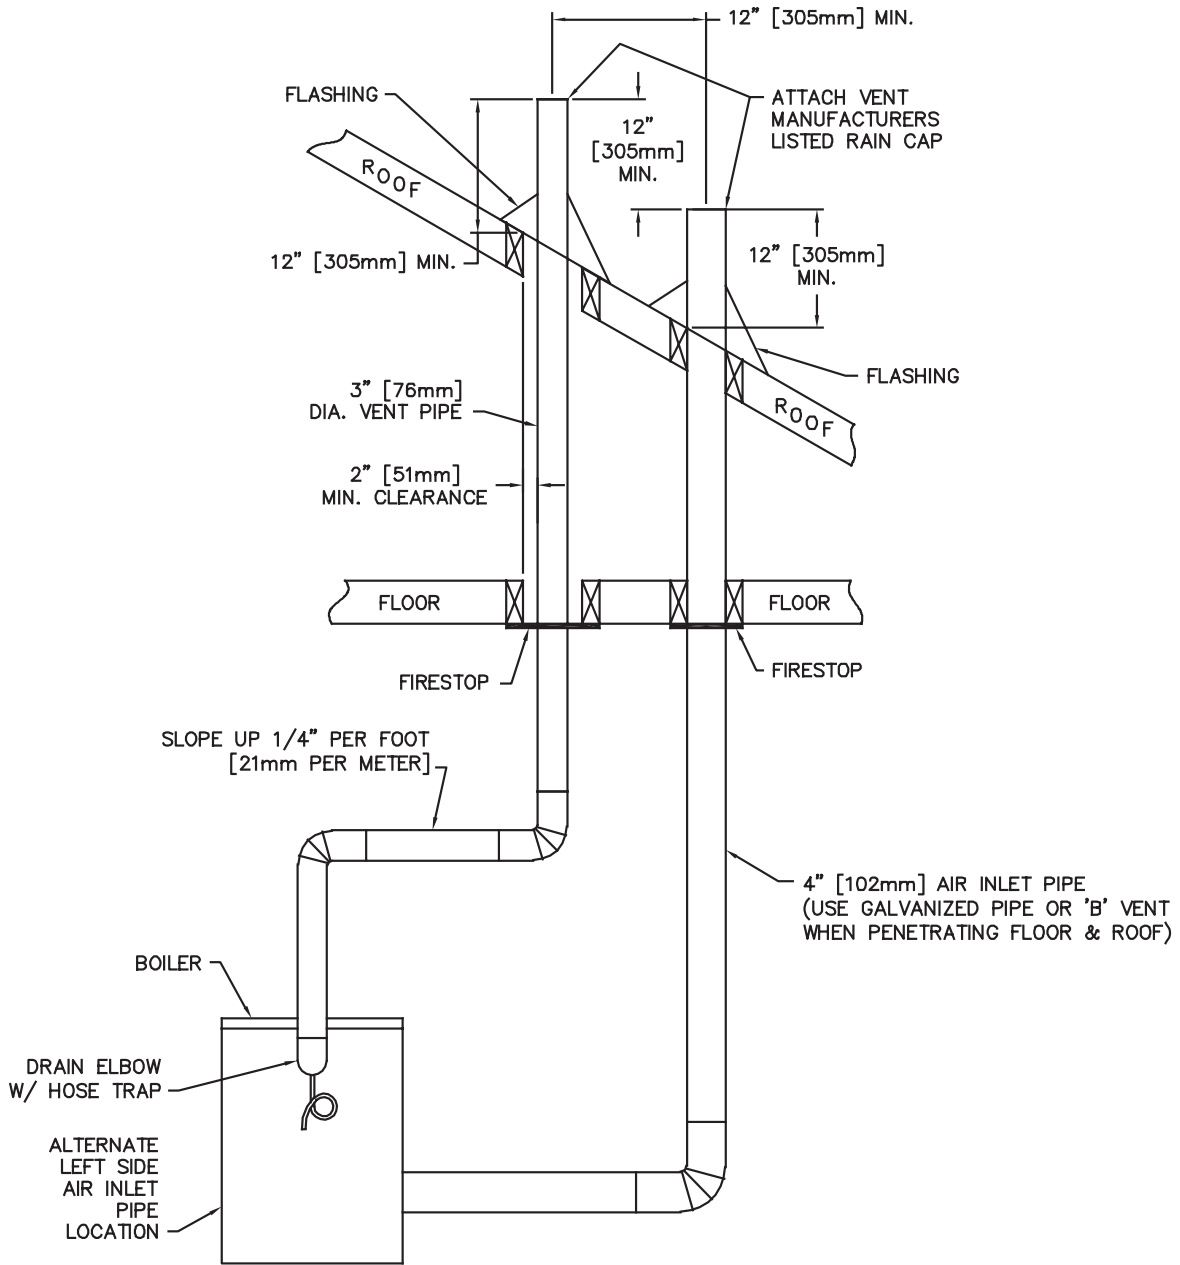

Figure 4.3: Vertical Venting System
- Vent pipe and air inlet pipe must terminate 12" (305 mm) above expected snow lines. Vent pipe must be a minimum 12" (305 mm) above and 12" (305 mm) horizontally from air inlet pipe. See Figure 4.3.